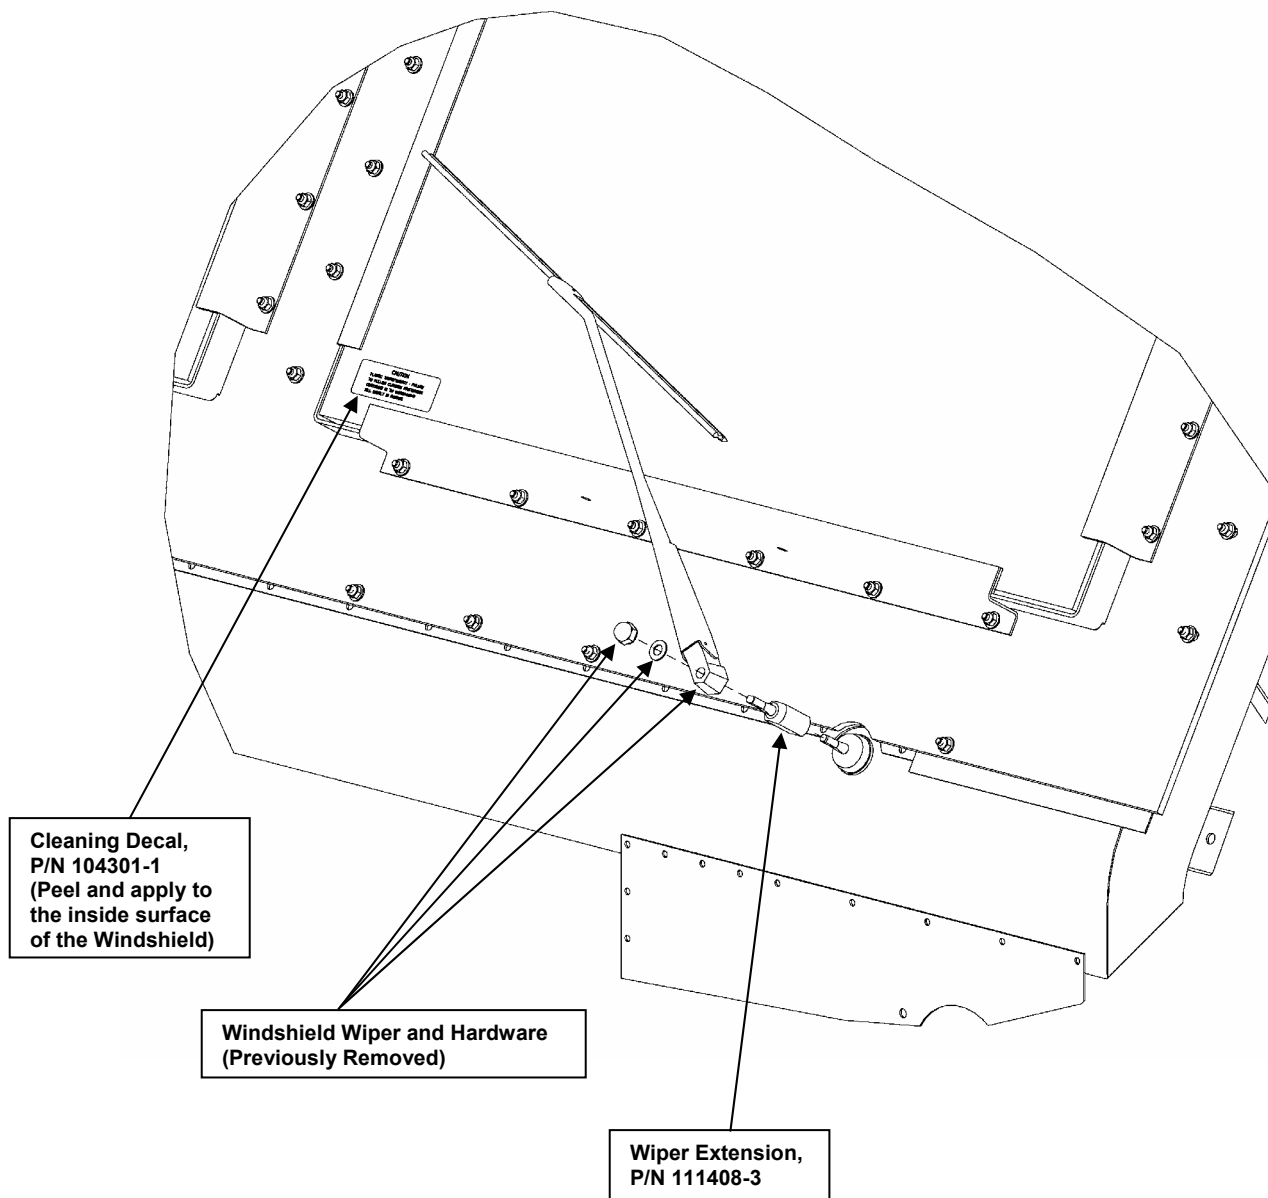

Figure 22. Windshield Wiper and Cleaning Decal installation.
- o) If this is the first time the Windshield Armor has been installed on a vehicle, apply the Cleaning Decal (P/N 104301-1) to the lower left hand corner of the Windshield Armor (see Figure 22) so that it does not obstruct the driver's / passenger's view. Remove the protective covers from the transparencies.
- p) Install the Wiper Extension (P/N 111408-3) by threading the part fully onto the wiper shaft and locking it in place using the set screw located on the side of the Wiper Extension (see Figure 22). Re-attach the Windshield Wiper and Hardware that was previously removed. Reconnect the wiper fluid hose to its nodule. Adjust the wiper as necessary for correct arm travel.